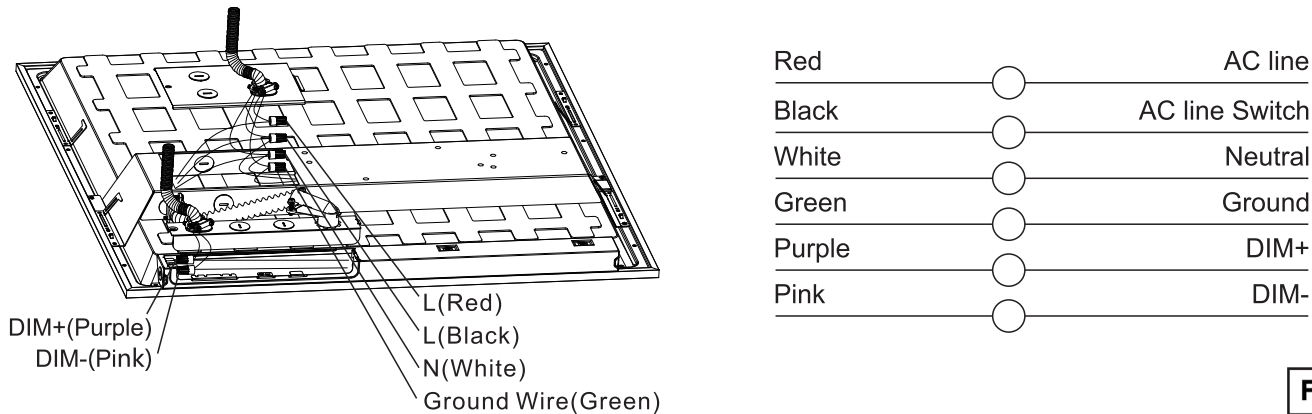

Fig. 2
- 2.) Connect coordinating wires and secure the driver cover to the fixture. (Fig. 2)